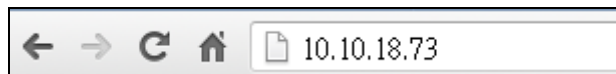

Figure 3-22: IEI iMAN Web Address
- Step 3:** On the remote management console, open a web browser. Enter the managed system IP address in the web browser (**Figure 3-22**).